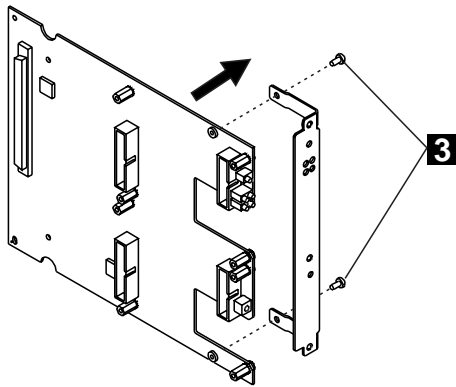

Figure 5. Removing the Dummy Faceplate Bracket
- **4** Remove the dummy faceplate bracket from the motherboard (**3** in Figure 5), saving the screws for the new bracket. Save the dummy bracket in a safe place for future reuse.